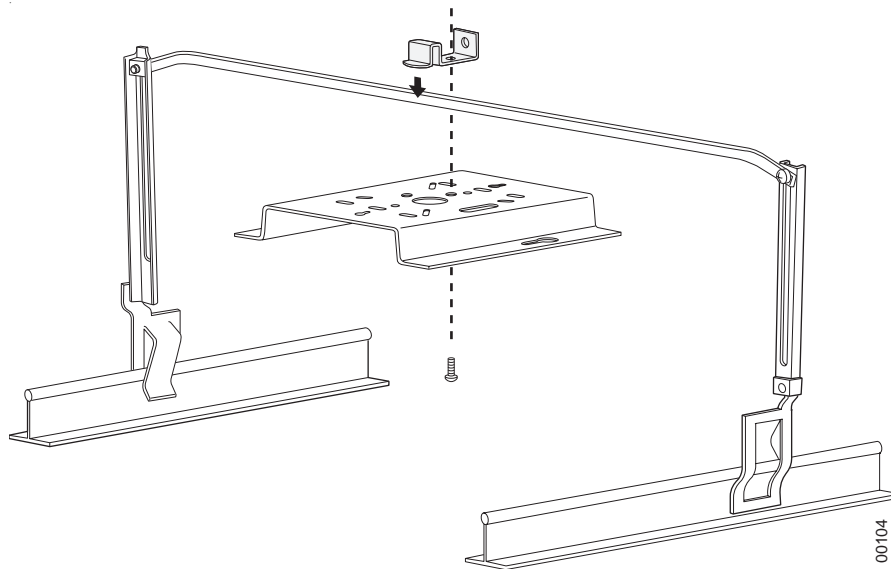

Figure 13: Attaching the Mounting Bracket to the Box Hanger
4. Attach the U-joint of the clip to the T-bar and snap in place (see Figure 13).
5. Pass the long end clip through the large center hole to the underside of the the mounting bracket clip and then attach the bracket to the clip using the supplied screw (see Figure 13 for orientation).